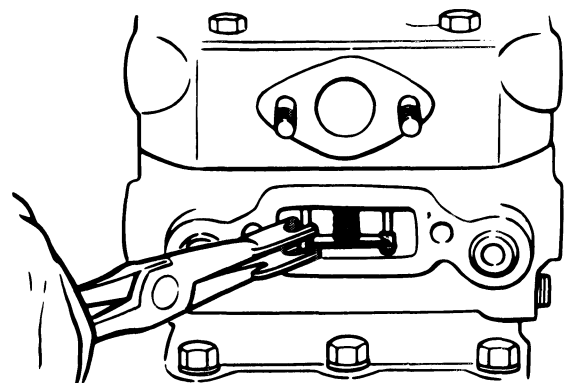

Figure 10. Removing Spring Saddle
3. Raise spring saddle and remove it from the unloader plunger. See Figure 10.